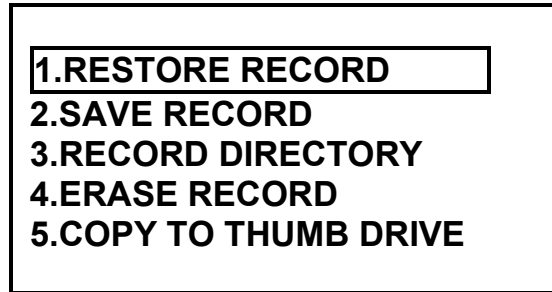

Figure 77.0 Save/Restore Record With Thumb Drive Menu
- b. **Origin:** From the “Save/Restore Record With Thumb Drive Menu” (Figure 77.0) select menu option 5.